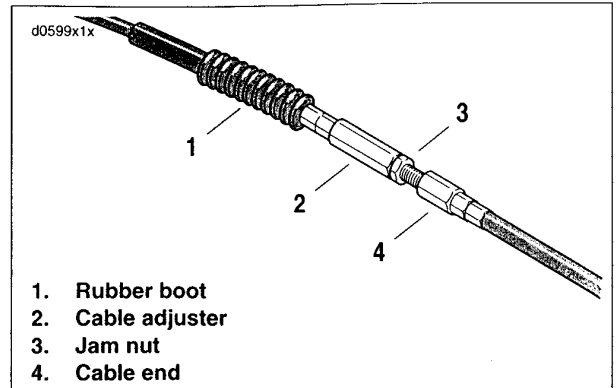
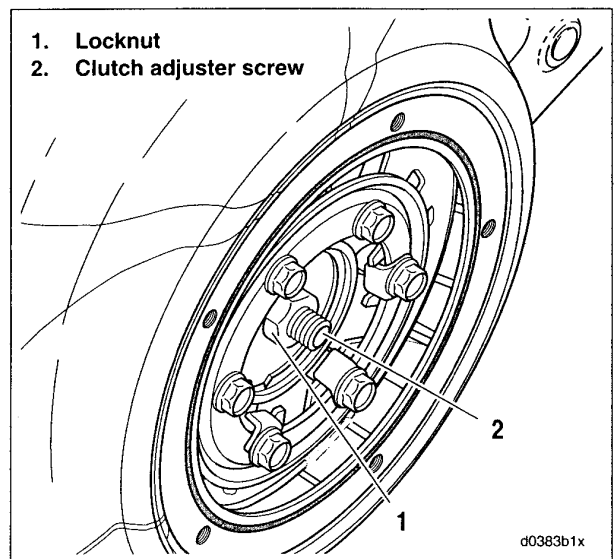

Figure 1-28. Clutch Cable Adjuster
Figure 1-29. Clutch Adjuster Screw
3. See Figure 1-28. Add freeplay to cable.
- a. Slide rubber boot (1) off cable adjuster.
- b. Holding cable adjuster (2) with 1/2 in. wrench, loosen jam nut (3) using a 9/16 in. wrench.
- c. Turn cable adjuster (2) until there is a large amount of free play at clutch hand lever.
4. See Figure 1-29. Loosen locknut (1) on clutch adjuster screw (2). To take up all free play, turn screw inward (clockwise) until lightly seated. Activate the clutch lever to verify the balls are seated in the ramps.